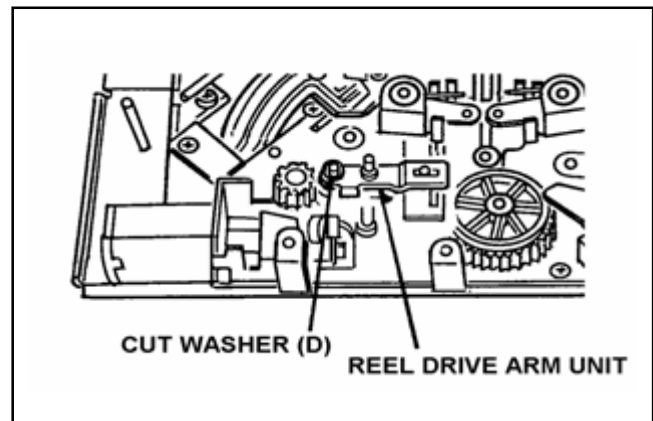

Figure 5-26-2
6. Remove the Cut Washer (D) and remove the Reel Drive Arm Unit as shown in Figure 5-26-2.
7. Remove the Supply and Take Up Reel Rotor Unit. (Refer to item 5-5)
8. Remove the 2 Cut Washers (E) and remove the Supply and Take Up Base Drive Arm Unit.
9. Remove the 2 Cut Washers (F) and remove the Slide Rod Unit.